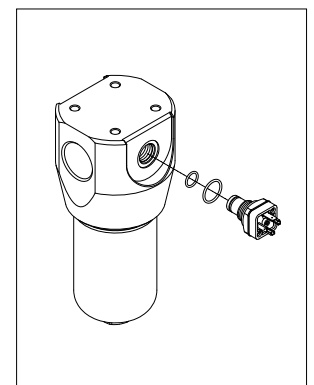

fig. 16
- (Fig. 16) Replace the O-rings of the indicator body.